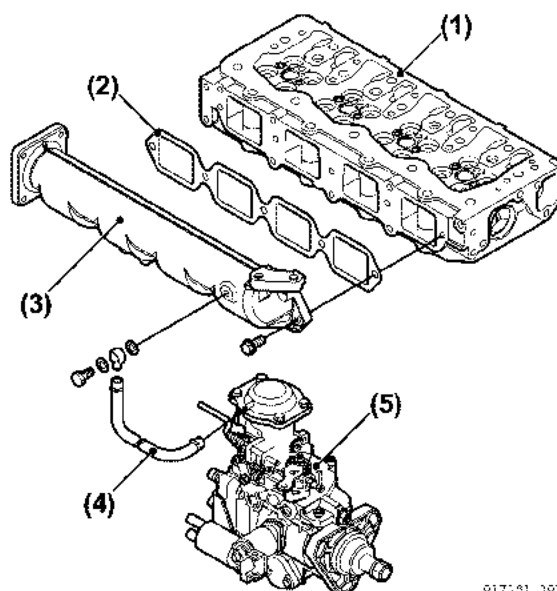

Figure 5-168
41. Thoroughly clean the inside of the intake manifold. Install the gasket and intake manifold (Figure 5-168).